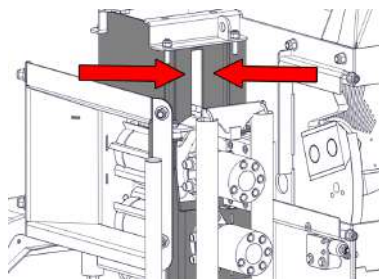

Figure 35 - Greasing the Roller box Slides
5. Apply thin grease, with a brush, directly to the slide surfaces, including the inner cheeks of the slider (Figure 35).